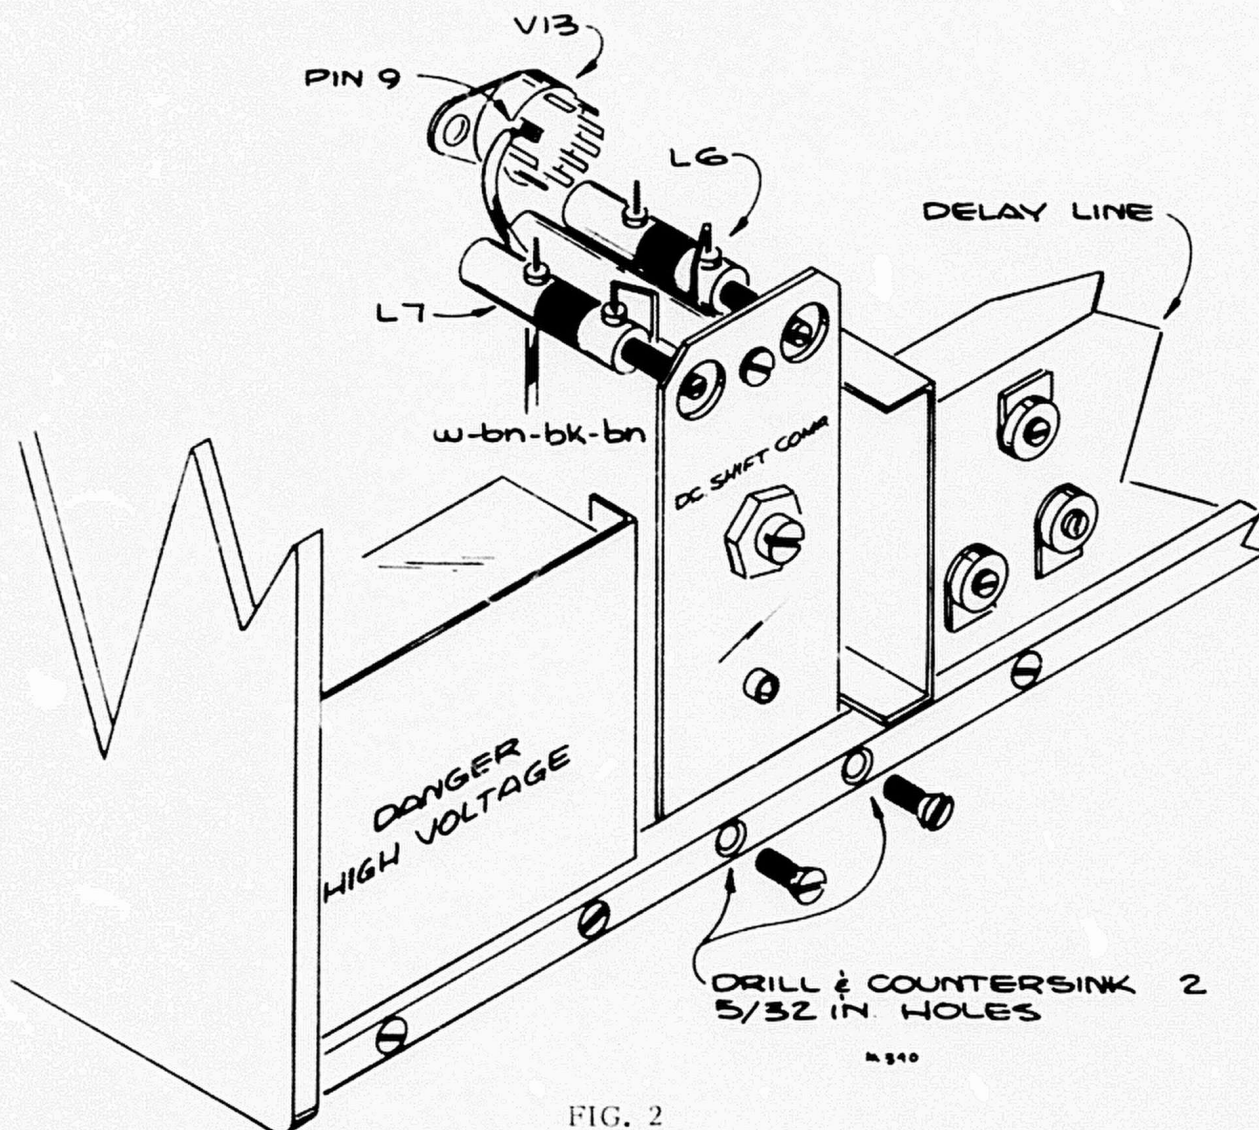

FIG. 2
- c) Mount the DC Shift Comp plate to the support bar above the CRT socket as shown in Fig. 2.
- d) Wire as shown in Fig. 2.